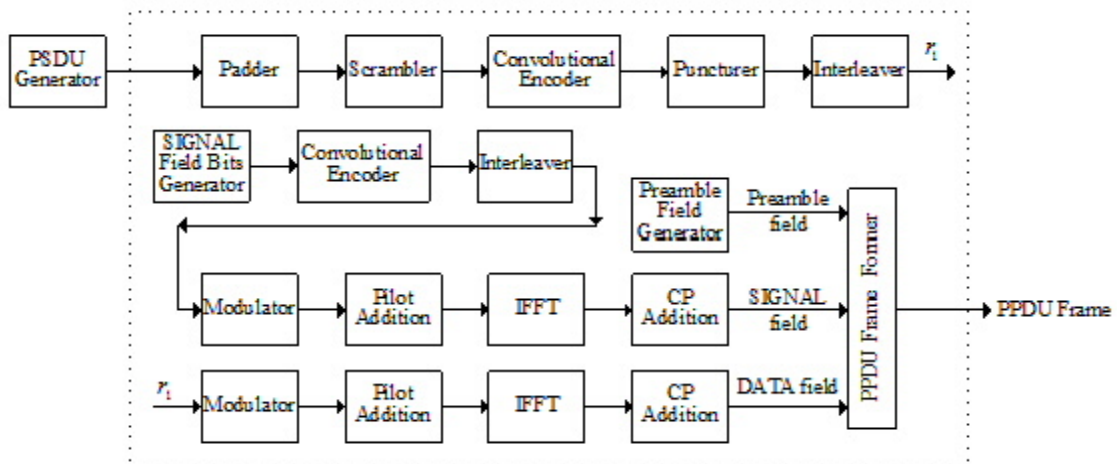

Fig.1 Block diagram of the IEEE 802.11a baseband transmitter
1. This model is a high level component of the IEEE 802.11a baseband transmitter. The block diagram of this model is shown in Fig. 1, which does not include PSDU Generator. For some details, please refer to the related models.